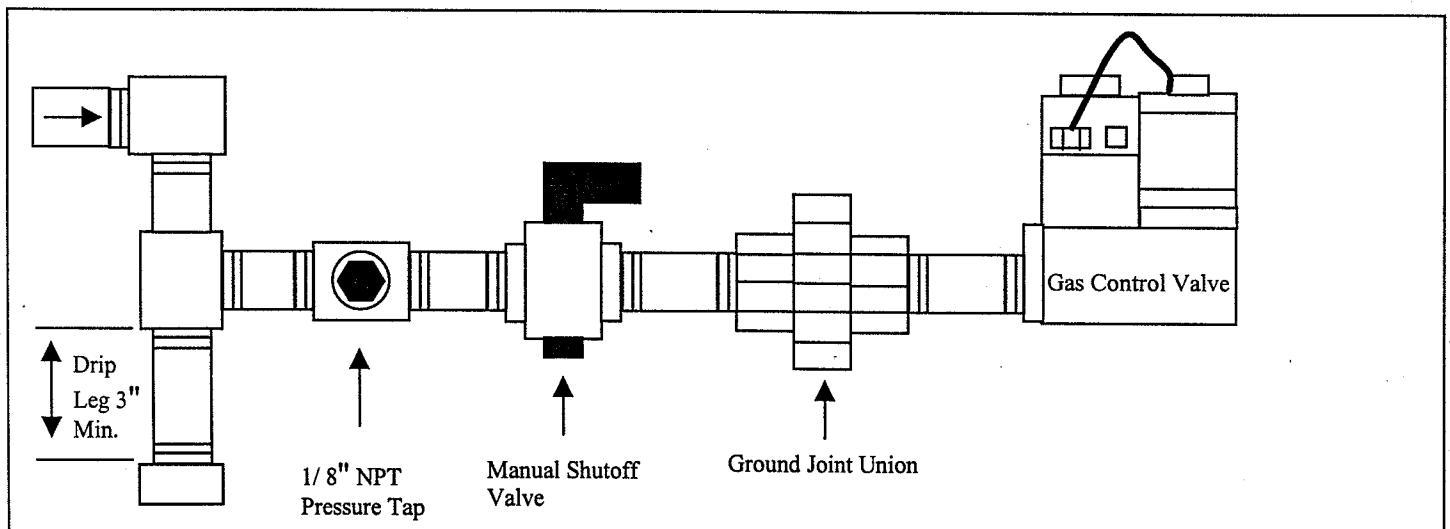

Figure 14
1. Installation of a ground pipe joint union is required at the gas inlet connection to the gas control valve of the greenhouse heater. All components upstream of the gas control valve are field supplied by the installer (see figure 14 page 18).
3. Installation of a manual shut-off valve and 1/8" NPT tap and plug is required for test gauge connection within reach of the gas control valve. Installation of the NPT tap and plug must be upstream from the control valve (see figure 14 page 18) and within reach of the valve.